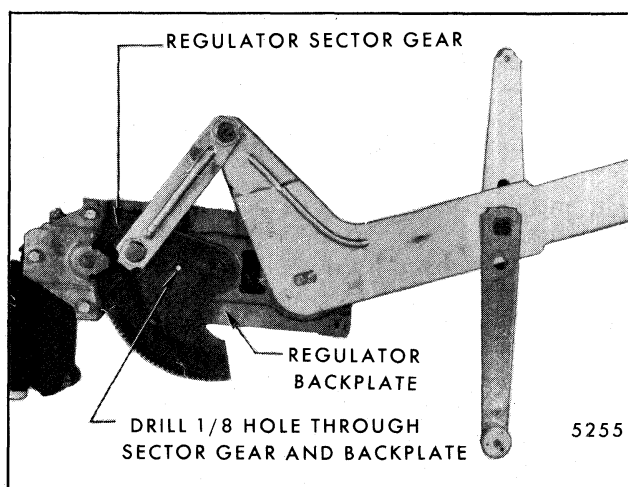

Fig. 5-46-Front Door Window Regulator Motor Removal
3. Drill a 1/8" hole through the regulator sector gear and back plate (Fig. 5-46) DO NOT drill hole closer than 1/2" to edge of sector gear or back plate. Install a pan head sheet metal tapping screw (No. 10-12 x 3/4) in drilled hole to lock sector gear in position.